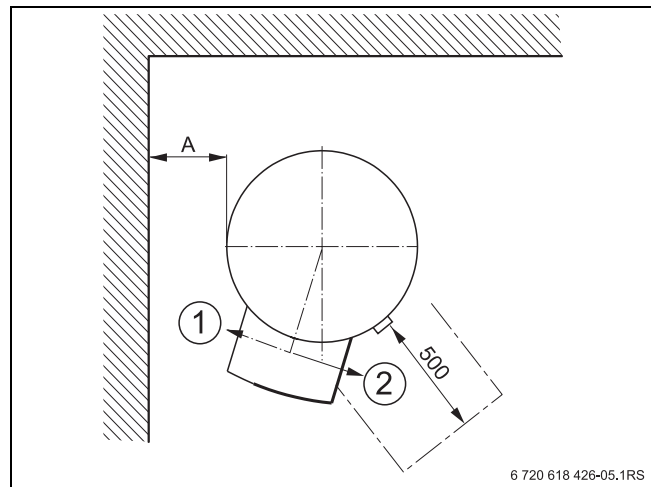

Fig. 7 Minimum wall clearances (in mm)
- ▶ Maintain the minimum height and minimum wall clearances in the installation room. (→ Tab. 3, page 9 and Fig. 7).